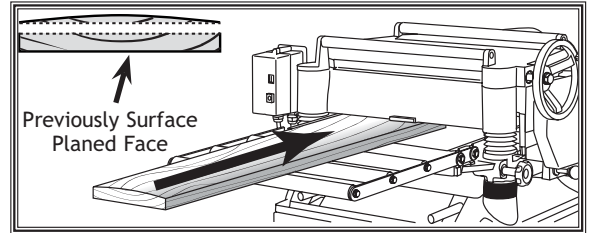

Figure 27. Surface plane on a thickness planer.
2. **Surface Plane On a Thickness Planer:** The opposite face of the workpiece is surface planed flat with a thickness planer (Figure 27).